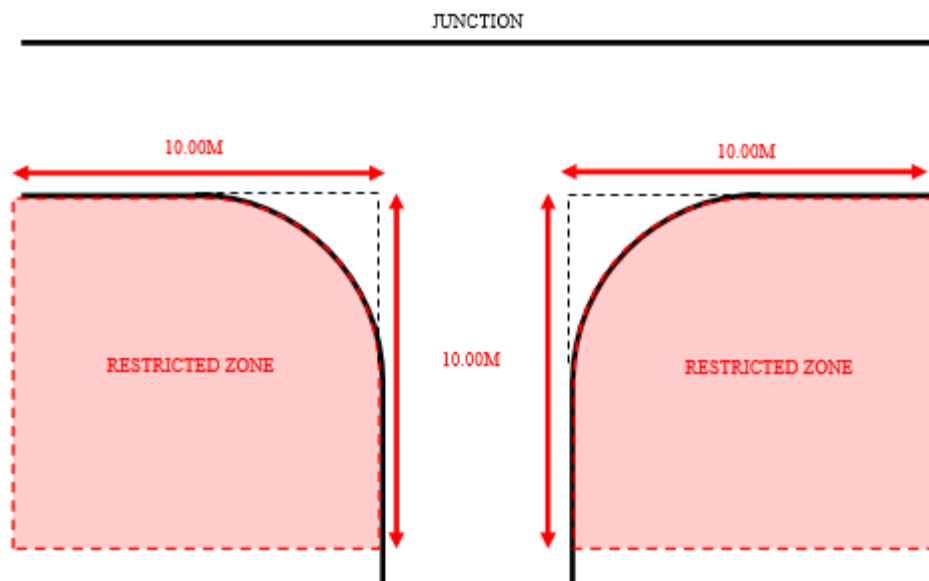

Figure 6: Required Distance From Junction.
- Figure 6: Required distance from junction
- d) **Junctions** – A proposed vehicle crossover must not **be within 10m** from a road junction or traffic signal, **(15m in the case of junctions on classified roads, A, B or C)**. A vehicle crossover will not be permitted within the restricted zone as shown in Figure 6, below. This also applies to junctions with roundabouts.